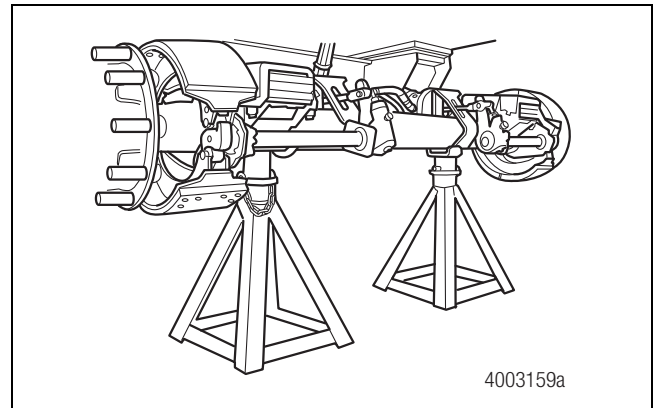

Figure 3.1
3. Place safety stands under the trailer frame or under each axle spring seat. Figure 3.1.